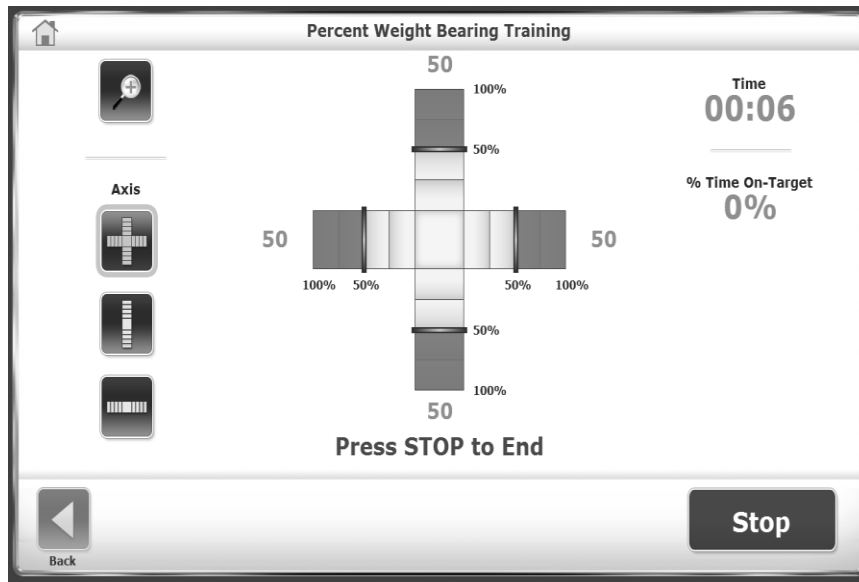

Figure 5.1. Percent Weight Bearing Training.
1. Touch one of the three Axis icons to select the orientation for training. The display changes to show only that axis. Figure 5.1 displays both axes.